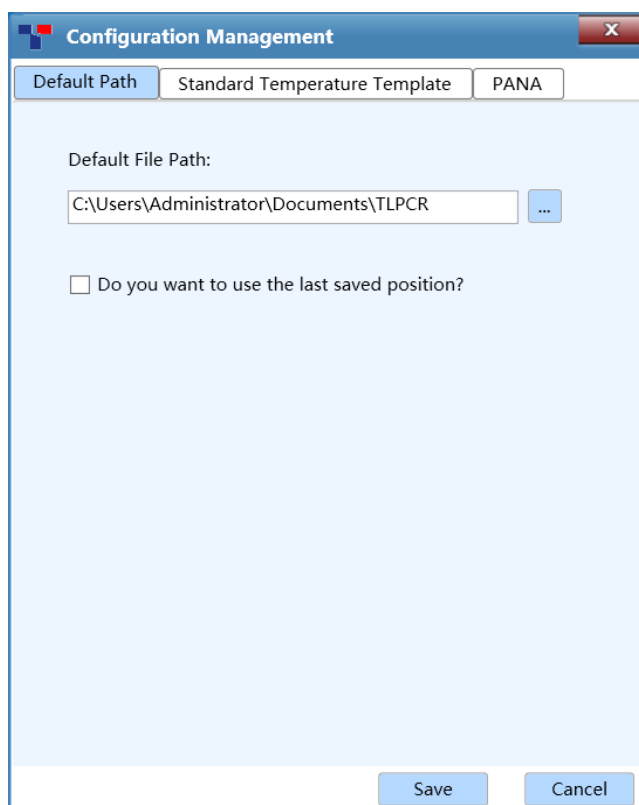

Figure D-3.5a Option submenu - Configuration Management interface - Default Path tab
1. **Configuration Management:** Click **Configuration Management** option in the **Option** submenu and the application software will automatically pop up the configuration management interface, as shown in figure D-3.5a.
- **Default Path** tab: the configuration management interface displays the **Default Path** tab by default, as shown in figure D-3.5a.